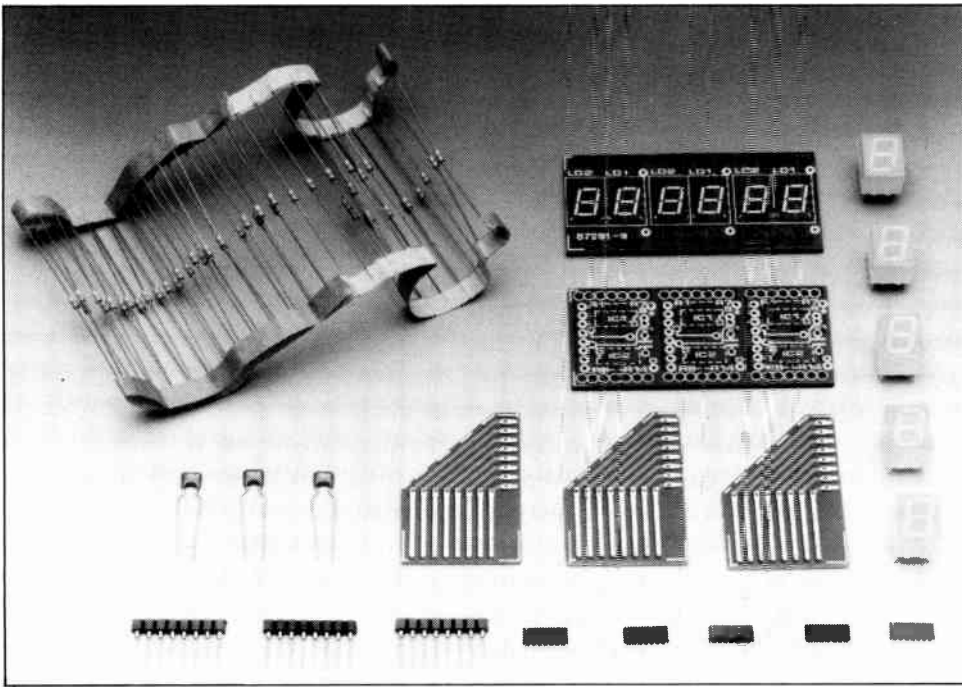

Fig. 9. All parts required to build the display. Note the IC pin strips with long pins.
3. To enable the display units to be connected to the corner pieces, use IC pin strips with long pins (1 cm; see Fig. 9). These pin strips must be fitted before the two PCBs are joined.